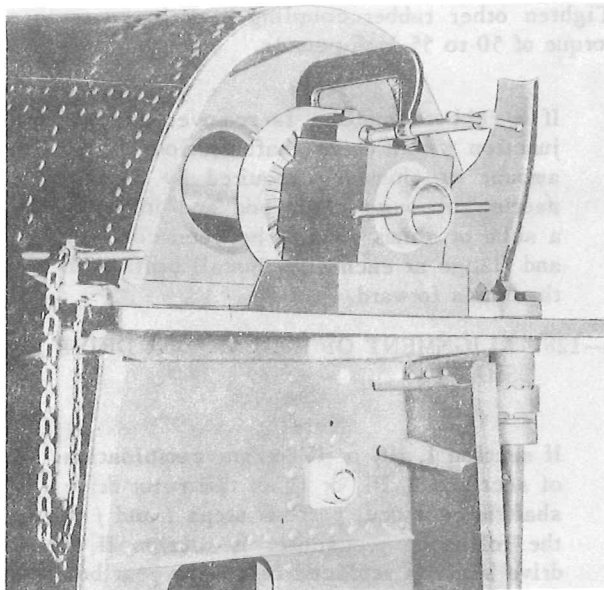

Figure 4-17. Using Alignment Fixture on Input Coupling
o. Install input coupling alignment fixture, part No. S1670-10608, between upper pylon hinge points. (See figure 4-17.)